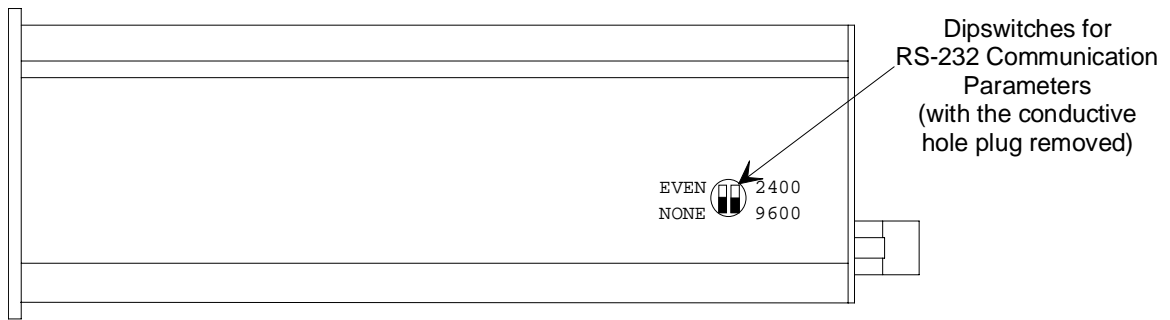

Figure 12: Location of the Switches for RS-232 Communication
2. Insert a flat object, such as a flat head screw driver, under the conductive hole plug and carefully lift off the plug. Once the plug is removed, the dipswitch bank will be visible, as shown in Figure 12, page 59.